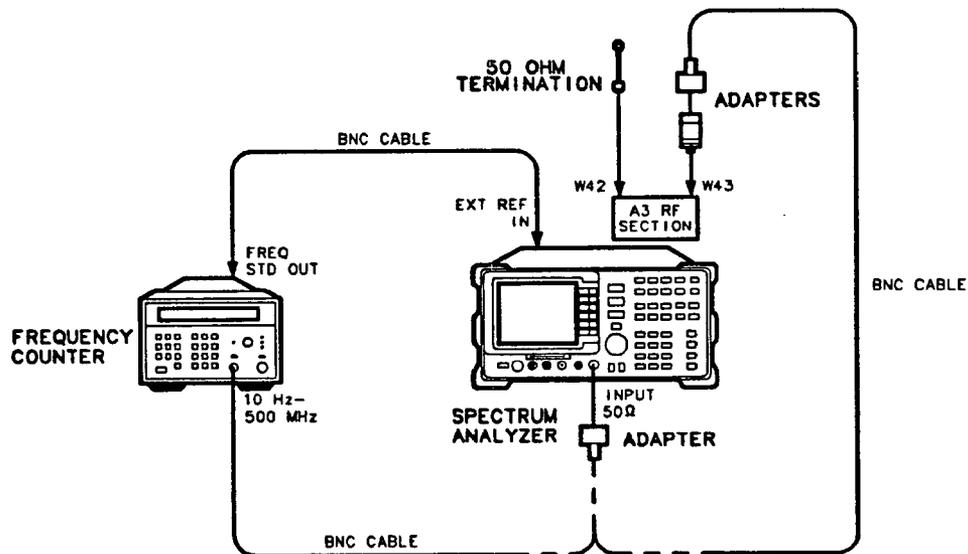

Figure 2-6. Tracking Oscillator Adjustment Setup
14. Connect the equipment as shown in Figure 2-6. The microwave frequency counter provides the frequency reference for the spectrum analyzer.